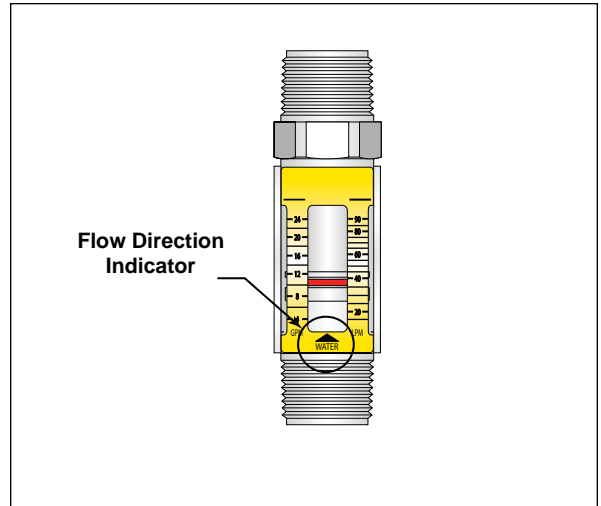

Figure 3. Flow Direction Indicator
These meters only accept flow in one direction. Make sure to align the Flow Arrow, located on the bottom of the meter's flow scale, in the same direction as the anticipated line flow. (See Figure 3).
3. Thread the flow meter and coupling onto the inlet pipe and hand tighten. Make sure the flow direction arrow on the flow meter corresponds with the system flow direction (see Figure 3).
6. Make sure the flow direction arrow on the flow meter corresponds with the system flow direction (see Figure 3). Lubricate the union O-ring and connect the union together.
7. Place the flow meter in between the two installed brass fittings. Make sure the flow direction arrow on the flow meter corresponds with the system flow direction (see Figure 3). Thread the two brass hex couplers into the flow meter body.
8. Place the flow meter between the two installed fittings. Make sure the flow direction arrow on the flow meter corresponds with the system flow direction (see Figure 3). Thread the two hex couplers onto the flow meter body.
3. Tighten flow meter connection by placing an open-end wrench on the flow meter metal connection adjacent to the pipe that is being attached. Tighten until snug. Make sure flow meter scale is oriented for convenient viewing (see Figure 3). **DO NOT** overtighten. **DO NOT** back off/unscrew to rotate scale for better viewing.